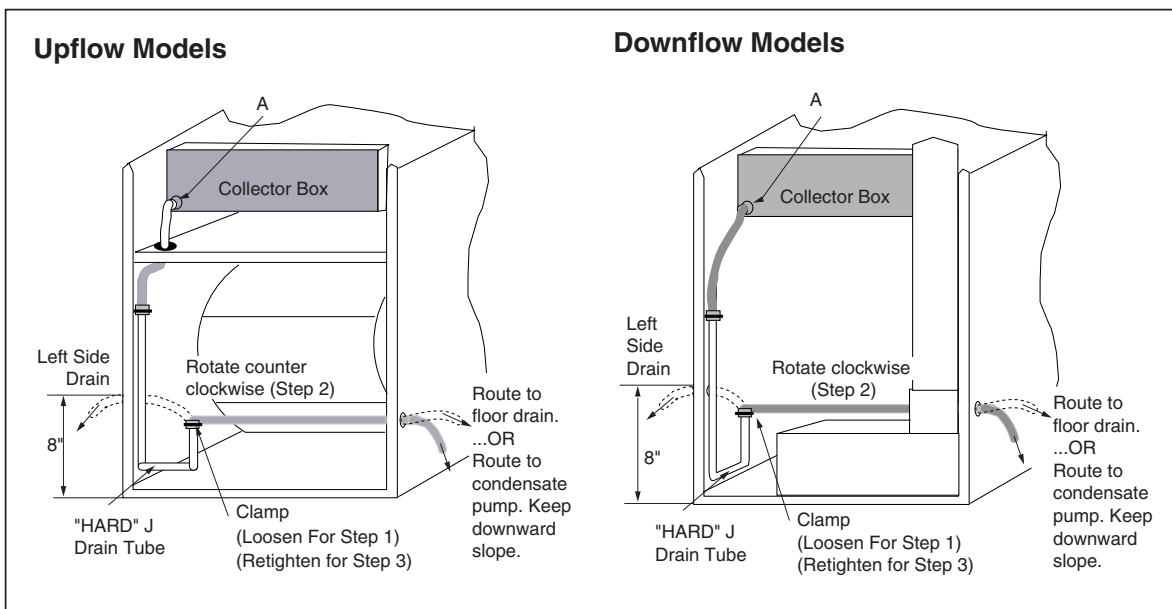

Figure 24. Furnace with Condensate Drain Trap Assembly
maintains a downward slope from the unit to the drain. Refer to Figure 24 for more details.
1. Loosen the clamp on the soft exit tube (see Figure 24.)
The condensate should drain from the plastic collector box (location A in Figure 24) as droplets or a small stream. If you notice the furnace has operated for more than 5 minutes without draining or the red status light on the control board is pulsing a 2-blink code follow the steps below.
1. Remove the collector box soft tube at location A in Figure 24 and insure the exit from the collector box is clear of any debris or obstructions.